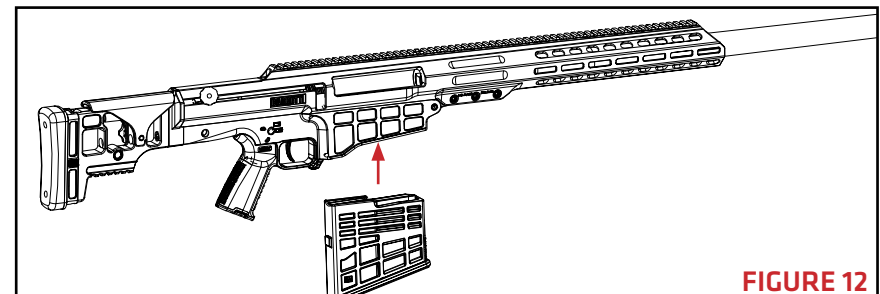

FIGURE 12
4. Insert the loaded magazine into the rifle (**FIGURE 12**).